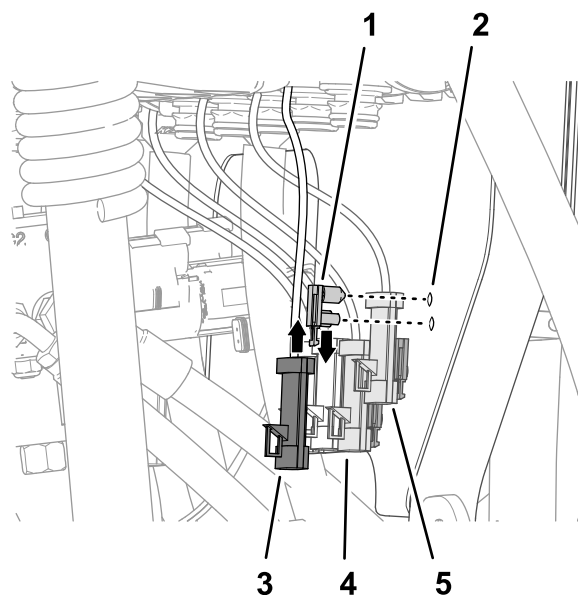

Figure 114
1. Assemble the connector anchor push-in fasteners onto the holes in the valve mount (Figure 114).